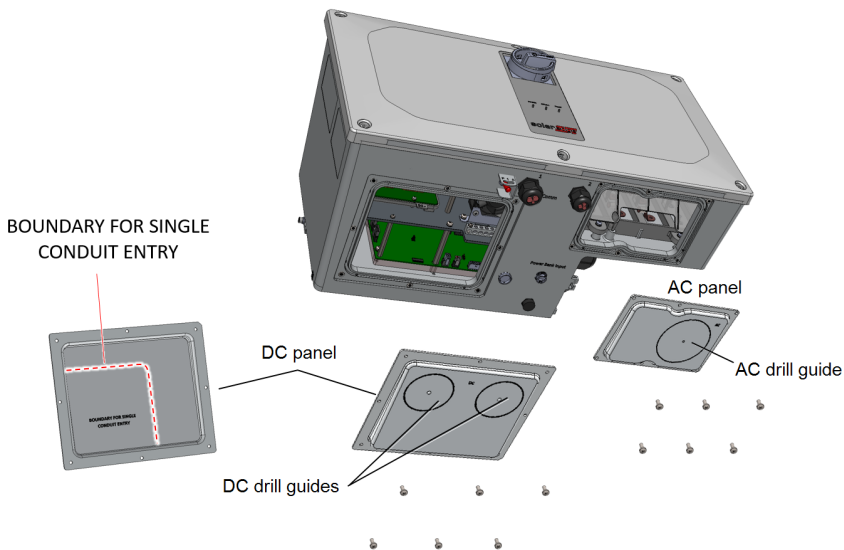

Figure 14: AC and DC panels with drill guides at the bottom of the Synergy Manager
3. Locate the drill guides for conduits on the DC and AC panels. Drill entry hole(s) for up to 2" conduit on the DC panel and 2.5" on the AC panel or drill entry hole for a single conduit, within the boundary marked on the inner side of the DC panel (see Figure 14).